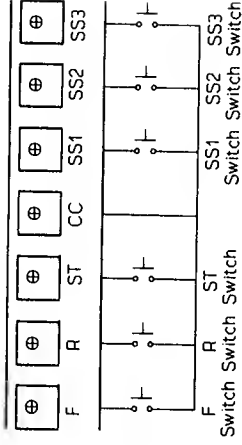

Figure 10.10 Connection of the Terminals for Multispeed Run Signals
1. Connect the "SS1", "SS2", and "SS3" switches between the SS1, SS2, SS3, and CC terminal blocks on the control circuit terminal block respectively as shown in Figure 10.10.
An example of wiring to the VF-SX drive multi-speed input terminal blocks is shown in Figure 10.10.